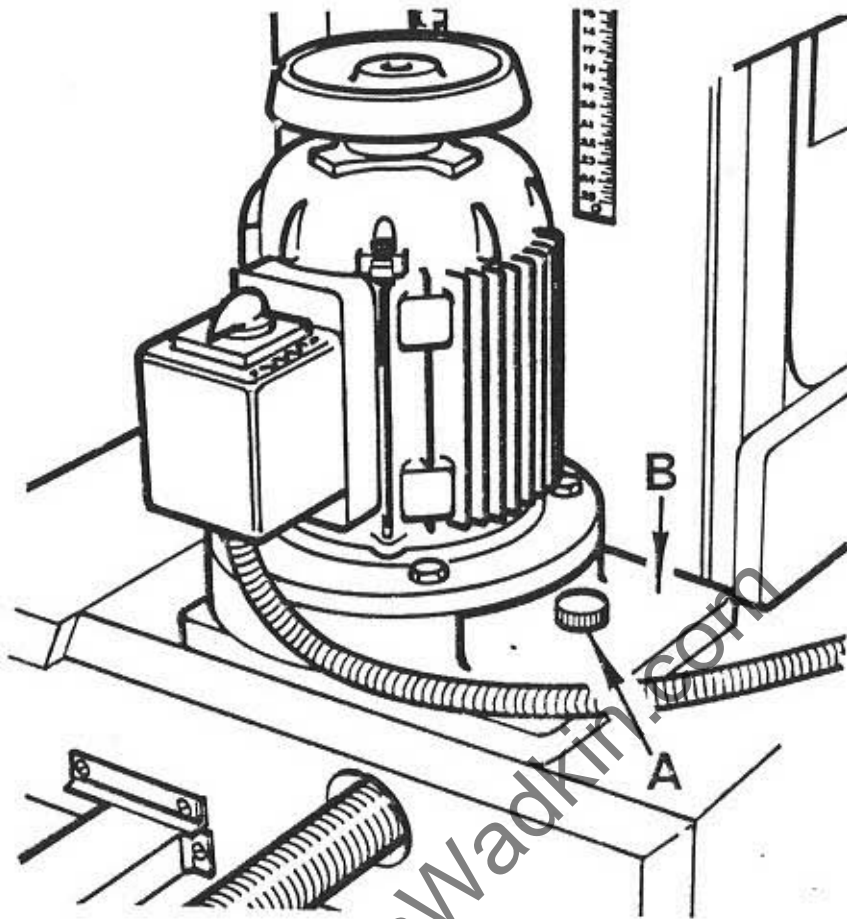

Fig 9
5. Unscrew combined filler cap - dipstick "A" in FIG 9 from traverse worm gearbox "B" and check that oil up to correct mark shown on dipstick "A". Top up if necessary, using correct grade of oil. See Approved Lubricants Page 26.